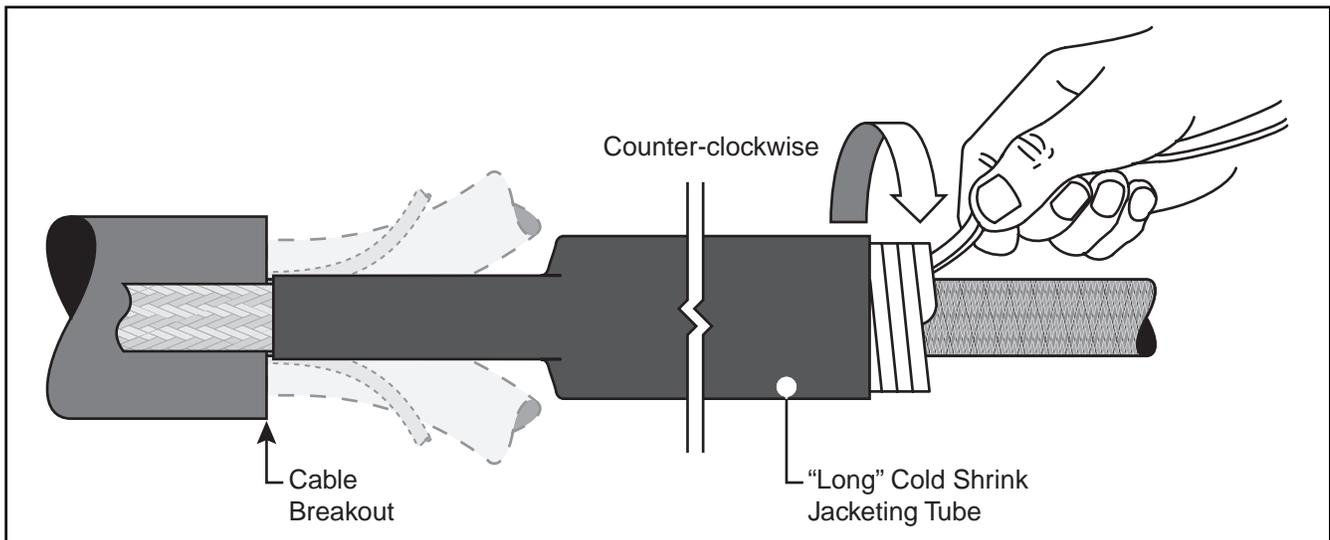

Figure 9
- 5.1 Slide a “long” cold shrink jacketing tube over each phase conductor and ground braid leg, with the loose core end trailing (facing connector end). (Figure 9.)
- 5.2 Install jacketing tubes as close as possible to the cable breakout. Remove cold shrink cores by UNWINDING COUNTER-CLOCKWISE. (Figure 9.)